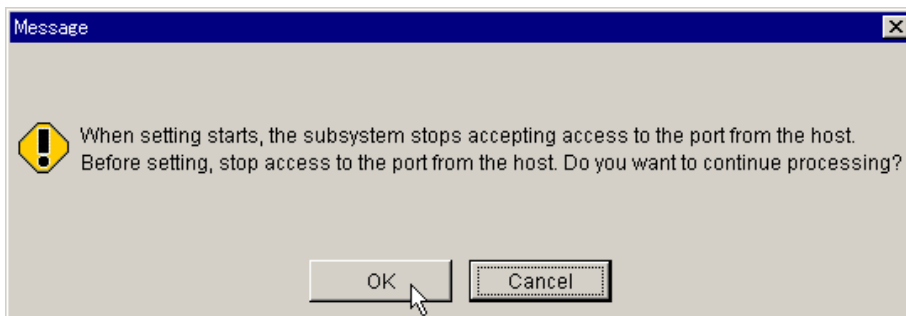

Figure 5.70 Host Access Warning Message
8. The **Host Access** warning message displays (see Figure 5.70). Make sure that host access to the port has been stopped, and then click **OK**.